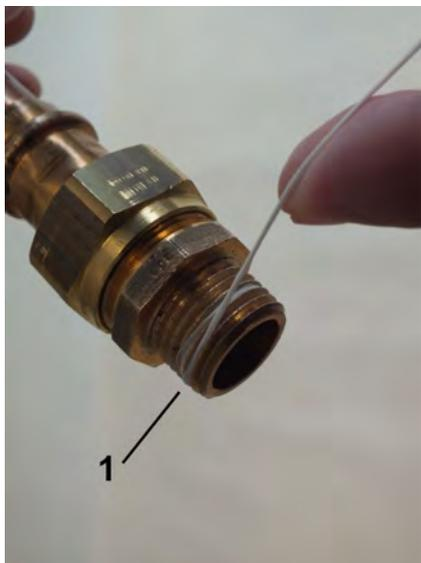

Fig. 10: Apply sealing thread
- #### 2. Apply sealing thread (Fig. 10/1) to the napped area in the threaded direction. Observe the quantity recommended by the sealant manufacturer.